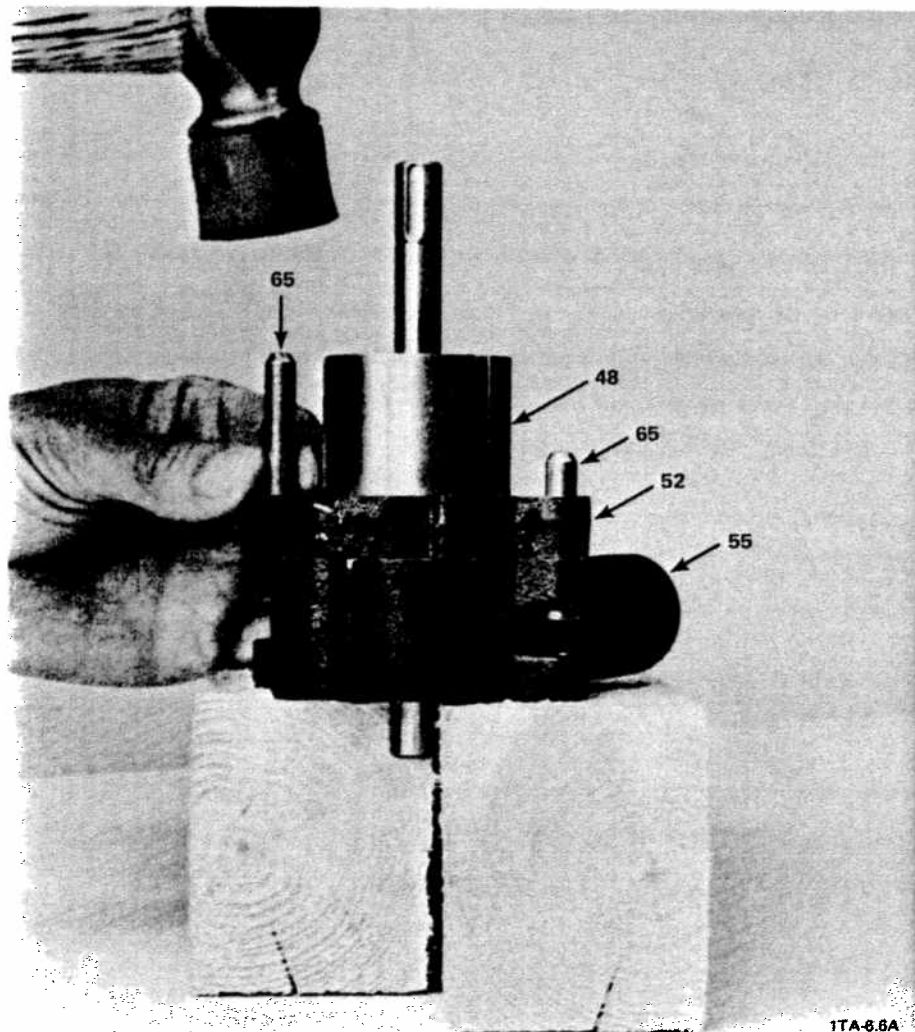

Figure 5-19. Driving the Long Cylindrical Pins that Align the HV Cylinder and the Center Bearing (D2A Pump Model Shown)
- a. Place the high vacuum (HV) stage cylinder (55) so that it is lying flat with the intake tube portion (the top) on the right facing away from you (see Figure 5-19). Fit an O-ring (47) into the O-ring groove on the cylinder (55) surface that is facing up.
- b. Attach the assembly that you put together in Step F-5 to the HV stage pump cylinder (55) as follows:
Step F-6 b (Cont'd.) (1) Take the Step F-5 assembly and insert its HV-stage end (the end that has two pulling holes on the outside end of the rotor) down into the HV stage cylinder (55) until the center bearing plate (52) rests against the HV stage cylinder (55) (see Figure 5-19).
(2) Align the two alignment holes in the center bearing plate (52) with the two upper alignment holes on the HV stage cylinder (55). (See Figure 5-19).
(3) **NOTE:** When driving the two long cylindrical pins (65) into the alignment holes, the flat end (nonbeveled end) of the pins (65) should face the HV cylinder (55). The HV cylinder is the one with the intake tube portion.
REQUIRED ACTION: Using a rubber hammer, hit the beveled end of the pins to drive the two long cylindrical pins (65) down through the two alignment holes in the center bearing plate (52), then through the two upper alignment holes in the HV cylinder (55) until the flat end of each pin extends just out of each upper HV-cylinder alignment hole (see Figure 5-19).
(4) Ensure that the center bearing plate (52) and the HV stage cylinder (55) are tight against each other and that they remain tight throughout the module assembly sequence.
c. Place the second stage pump cylinder (46) so that it is lying flat with the top edge (the flat portion that has the screw holes, exhaust holes, and gas ballast hole) on the right facing away from you. Fit an O-ring (47) into the O-ring groove on the cylinder (46) surface that is facing up.